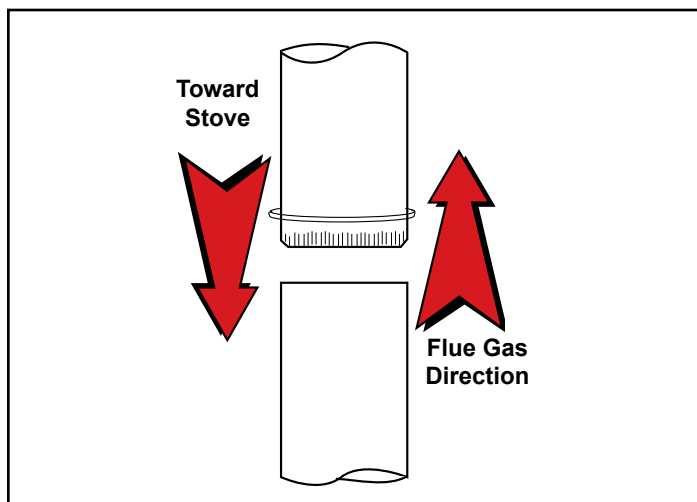

Figure 5 - Crimped sections always point toward the stove so that any liquid condensation will not leak out.
1. Insert the crimped end of the first section into the stove's flue collar, and keep each crimped end pointing toward the stove (Figure 5). Using the holes in the flue collar as guides, drill 1/8" (3 mm) holes in the bottom of the first section of chimney connector and secure it to the flue collar with three #10 x 1/2" sheet metal screws.